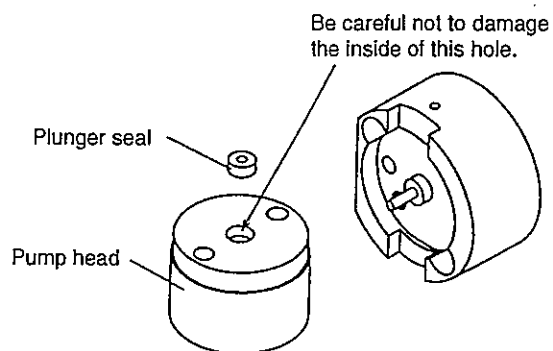

Figure 9.4 Removing the plunger seal
- (5) Remove the plunger seal from the pump head. See Fig. 9.4.
If the plunger seal still remains on the pump head, the seal can be easily removed by slightly moving the pump and then moving the plunger forward as shown in Fig. 9.4.